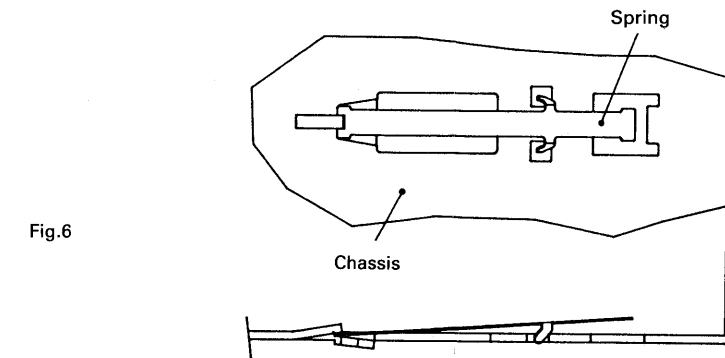

Fig.6
1. Place the spring onto the chassis as show in Fig.6.
1. Fig. 6に示す様スプリングをシャーシに置く。